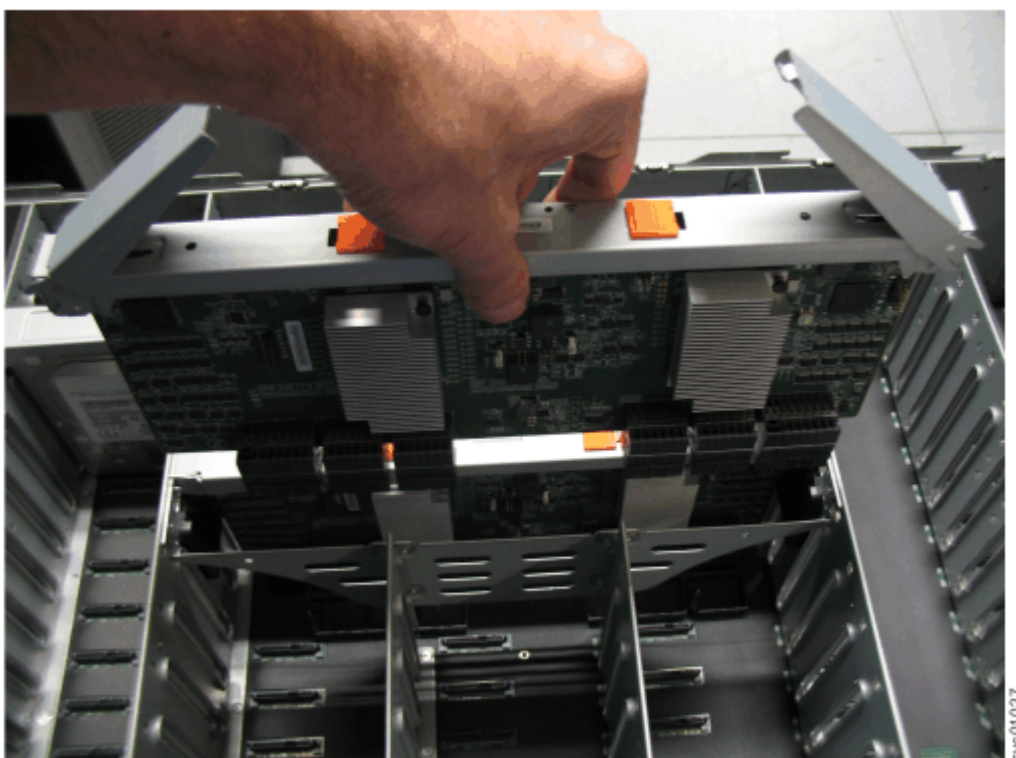

Figure 156. Remove the secondary expander module
4. Lift the secondary expander module carefully out of the enclosure, as shown in Figure 156 on page 189.